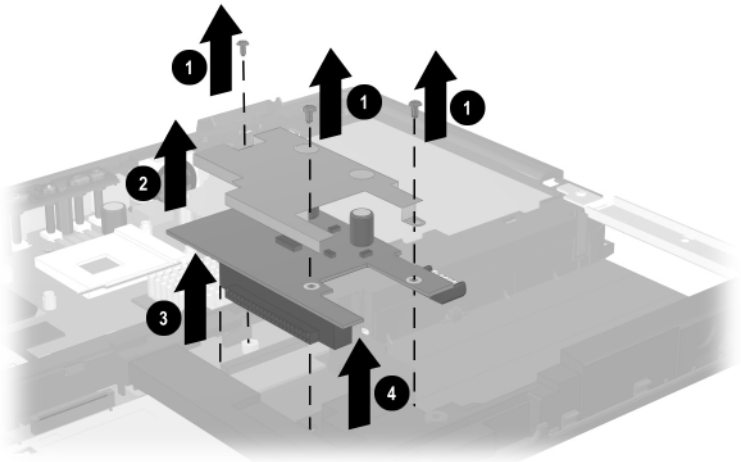

Figure 5-37. Removing the Charger Board
3. Remove the three TM2.5 × 5.0 screws ❶ that secure the charger board to the base enclosure (Figure 5-37).
4. Lift the front edge of the charger board shield ❷ until it clears the base enclosure, then slide the shield forward to remove it.
5. Lift up on the back edge of the charger board ❸ to disconnect it from the system board.
6. Remove the charger board ❹ from the base enclosure.